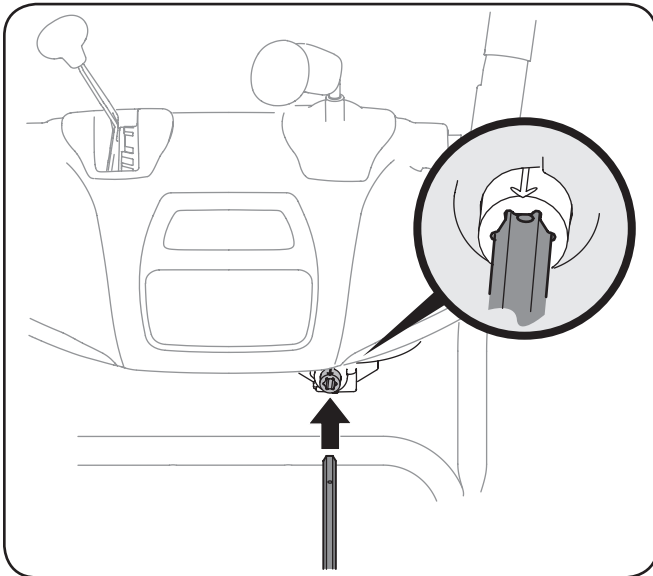

Figure 3-8
6. Insert the hex rod into the pinion gear below the joystick. Make sure to line up the hole in the hex rod with the arrow on the pinion gear. See Fig. 3-8.